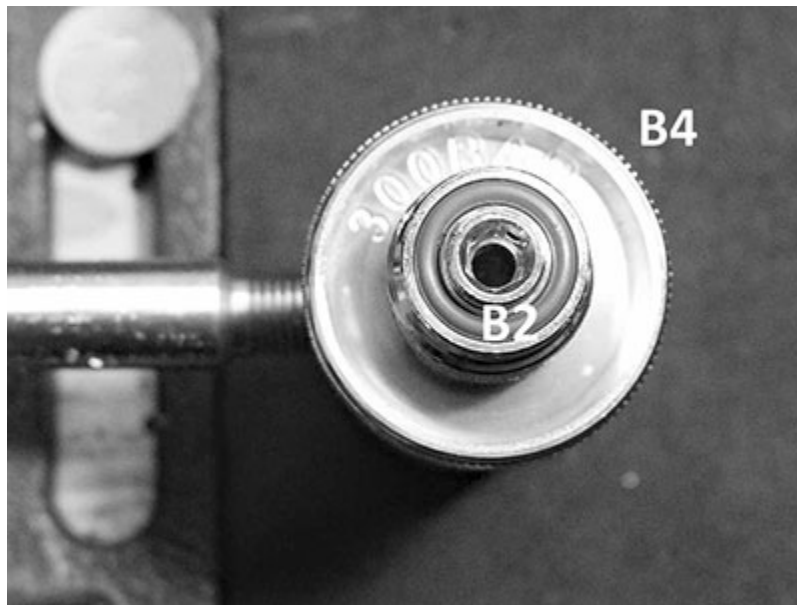

Fig. 7
3. Attach the First Stage Body Holding Tool to the regulator and secure the tool in a vise, DIN side up - Fig.7. In this orientation, you will remove the DIN Retainer (B2) and the DIN Knob (B4).